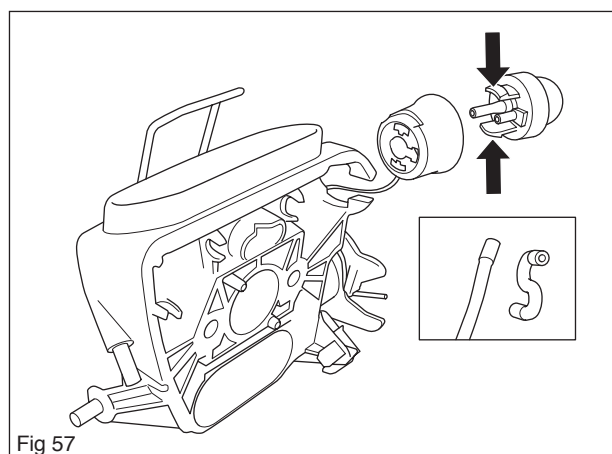

Fig 57
2. Loosen the return hose and pressure hose from the fuel pump. See figure 57.
1. Snap the fuel pump into place in the filter holder. See figure 57.